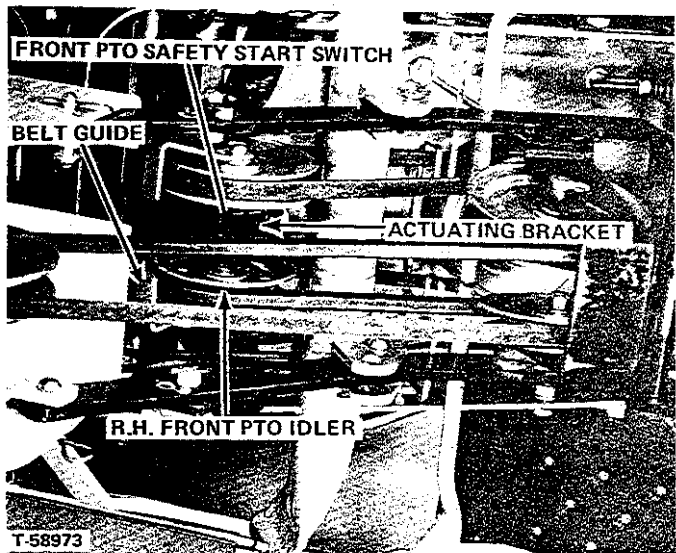

FIGURE 11 - View from Under Tractor
PREPARATION OF TRACTOR (Figure 11)
3. Be sure to reinstall the actuating bracket on the inside of the idler as shown in Figure 11. Refer to Front PTO Safety Start Switch in the tractor adjustment section for direction for adjusting the actuating bracket.